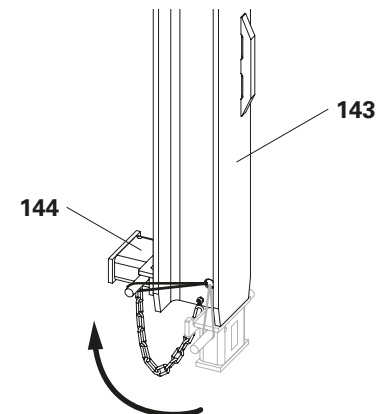

Fig. D2.02
3. Fold the spacer (**144**) upwards. (Fig. D2.02)